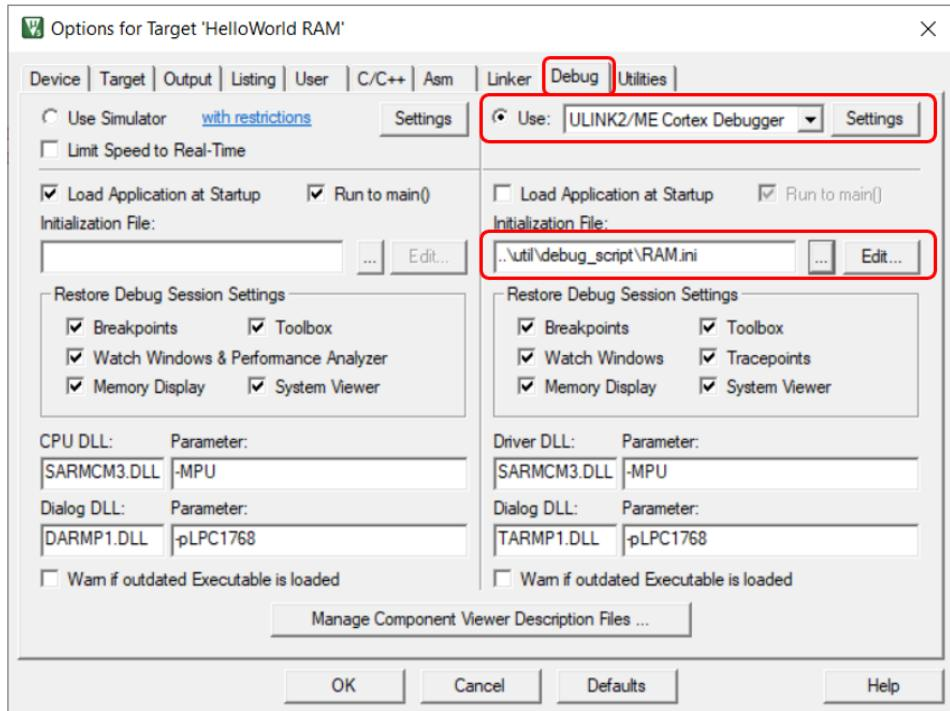
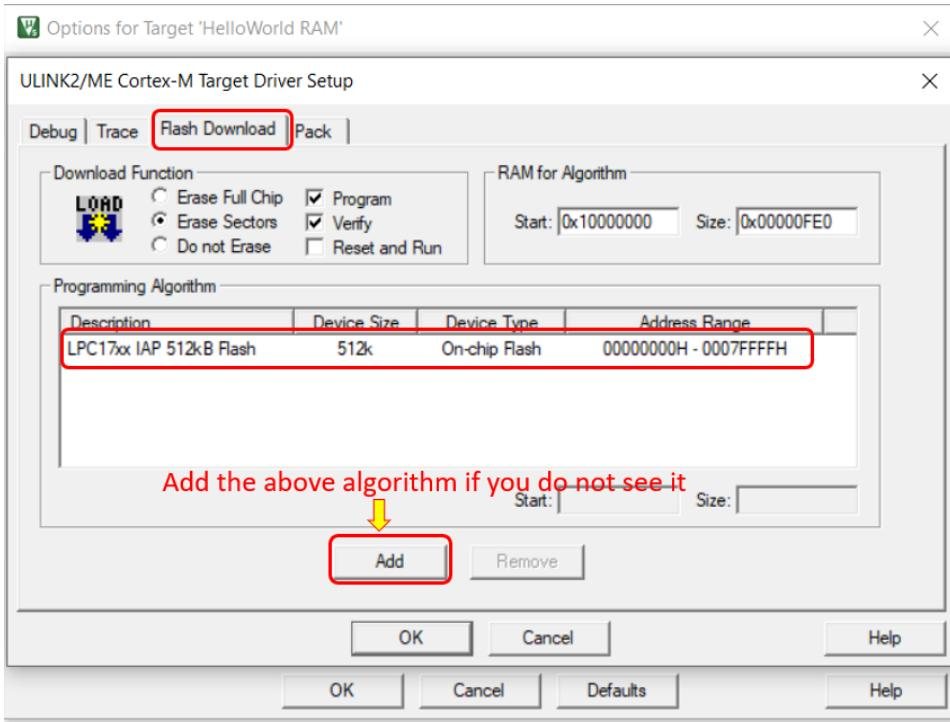

Figure 9.27: Keil IDE: Configure ULINK-ME Hardware Debugger.
Figure 9.28: Keil IDE: Flash Download Programming Algorithm Configuration.
4. Select the ULINK2/ME Cortex Debugger in the target options Debug tab and use an debug script RAM.ini provided in the starter code (See Figure 9.27) as
5. Press the settings button beside the ULINK2/ME Cortex Debugger (see Figure 9.27) and select the Flash Download tab (see Figure 9.28). You should add the LPC17xx IAP 512kB Flash algorithm to the Programming Algorithm field if it is not already there.